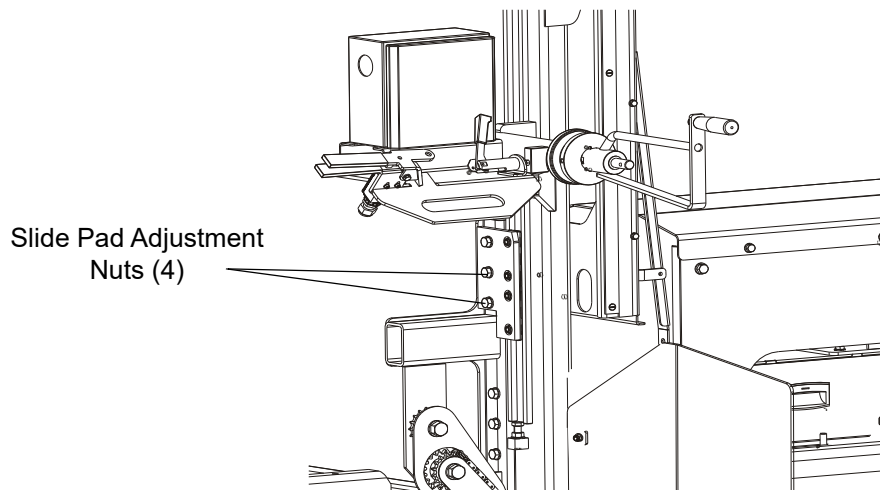

FIG. 4-5
7. If the dimensions A and B are not the same, adjust the head tilt as shown in the Figure 4-5.
See Figure 4-5